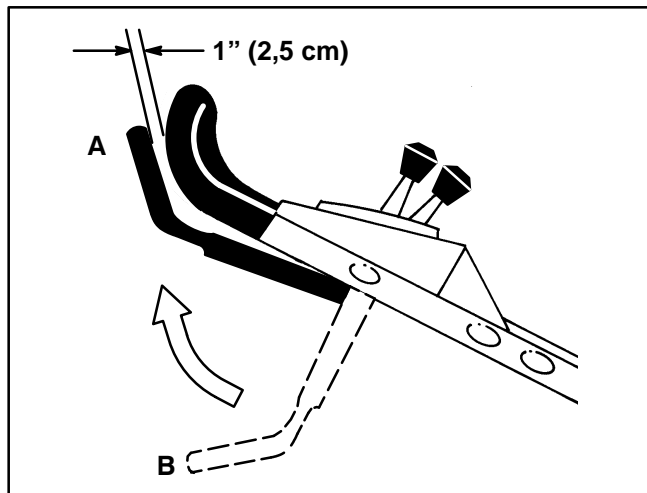

Figure 17
8. Lift control bar to the normal "blade engaged" position (about one inch below the handle) (Position A, Fig. 17). The "fan" noise indicates that the mower blade is turning.
9. Release the control bar (Position B, Fig. 17). A “bang” should be heard. The blade should stop running in three seconds.